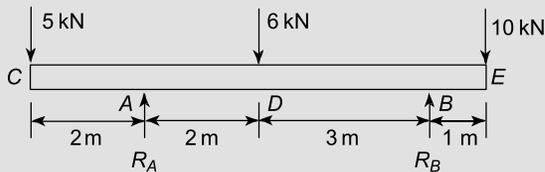

Figure 7.10
**Problem 2.** Determine expressions for the distributions of bending moment and shearing force for the horizontal beam of Figure 7.10. Hence, sketch the bending and shearing force diagrams.